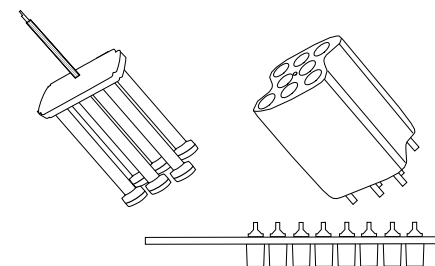

Figure F.1.2: Components to be Autoclaved
4. Place all components (*see Figure F.1.2*) into the autoclave and autoclave at 121°C for 20 minutes.